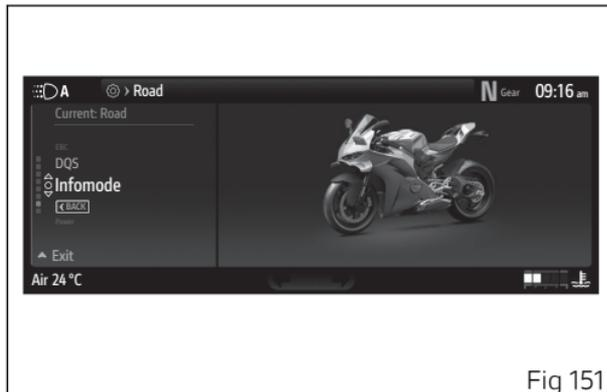

Fig 151
- Select the “Infomode” item (Fig 151) and press ○.